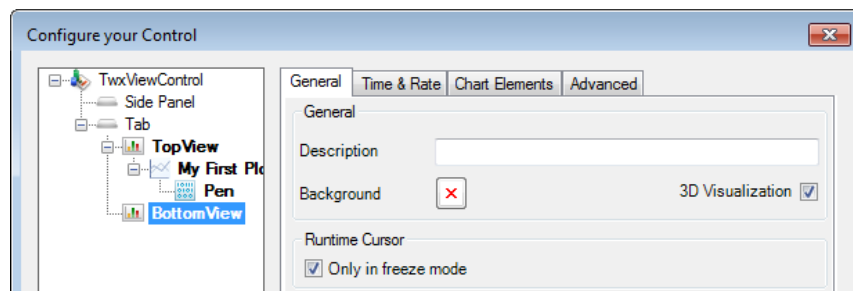

Figure L1.9 - Turning on 3D Visualization
13. Put a checkmark in the BottomView chart’s 3D Visualization checkbox, illustrated in Figure L1.9, to show data in the new chart view in 3D mode.